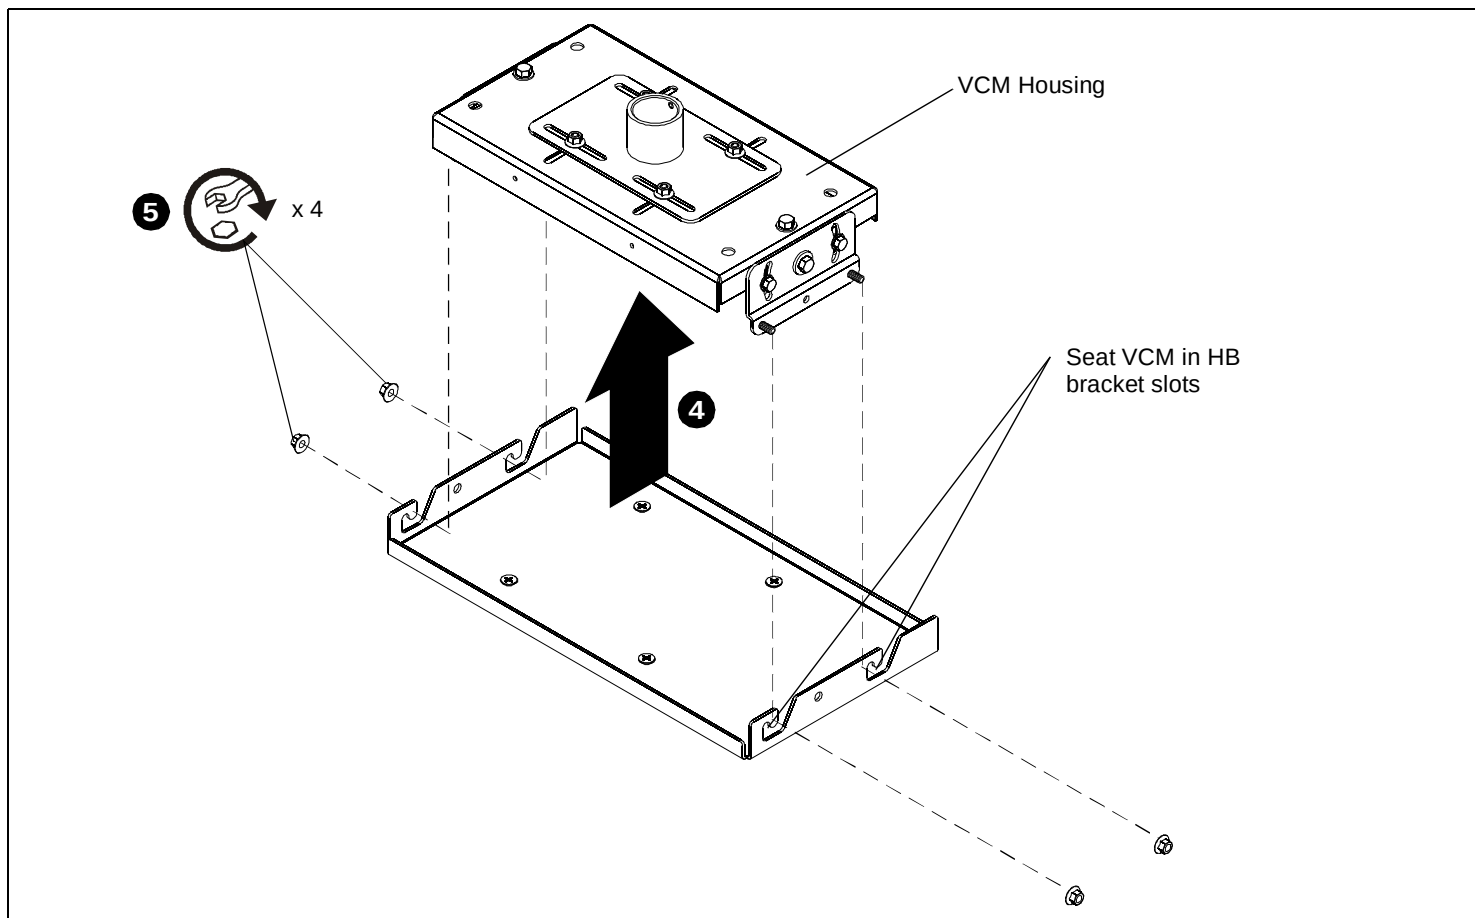

Figure 2:
5. With help of assistants, lift the projector and install it to the four studs extending from the VCM housing. Ensure that the VCM housing is seated in slots on HB bracket. (See Figure 2)
6. Tighten the four 5/16" flange nuts. (See Figure 2)